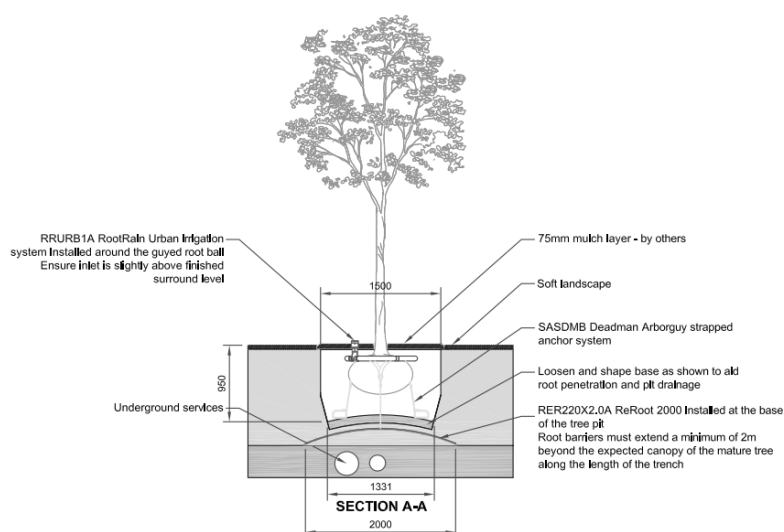

Figure1 Soft Landscape Tree Pit © GreenBlue Urban
- 6.4 All trees are to be pit planted in the locations identified on the attached Tree Planting Plan ref: BHC/TPS/12/23. Tree planting pits are to be prepared as follows, in accordance with the drawings (GBU2002) shown in Figure 1 below. As services are not required beneath the pits then the design can be amended to remove the root barrier and the root irrigation system is not required in this location. Once the soil has consolidated, the tree pits are to be excavated to the size of 1.5m diameter and to the depth of the root container of the planting stock. The bottom and edges of the pit are to be lightly broken up to using a fork, to improve root penetration. Tree pits are to be backfilled with excavated soil, which must be stored loose-tipped adjacent to the tree pit. Care must be taken to ensure that topsoil and subsoil are stored in separate piles. The base plate of the guying system is to be installed in the base of the pit following manufacturer recommendations. Alternatively, the trees can be secured using a double low stake method utilising fabric tree ties.